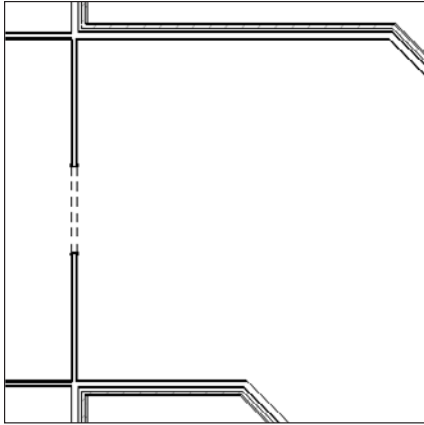

FIGURE 2.75 The new opening
10. Zoom into the area shown in Figure 2.75, and place an Interior - 6 1/8" Partition (2-hr) wall as shown. This is the wall you will place the opening into.
11. Click Component, and place the opening into the wall as shown in Figure 2.75.